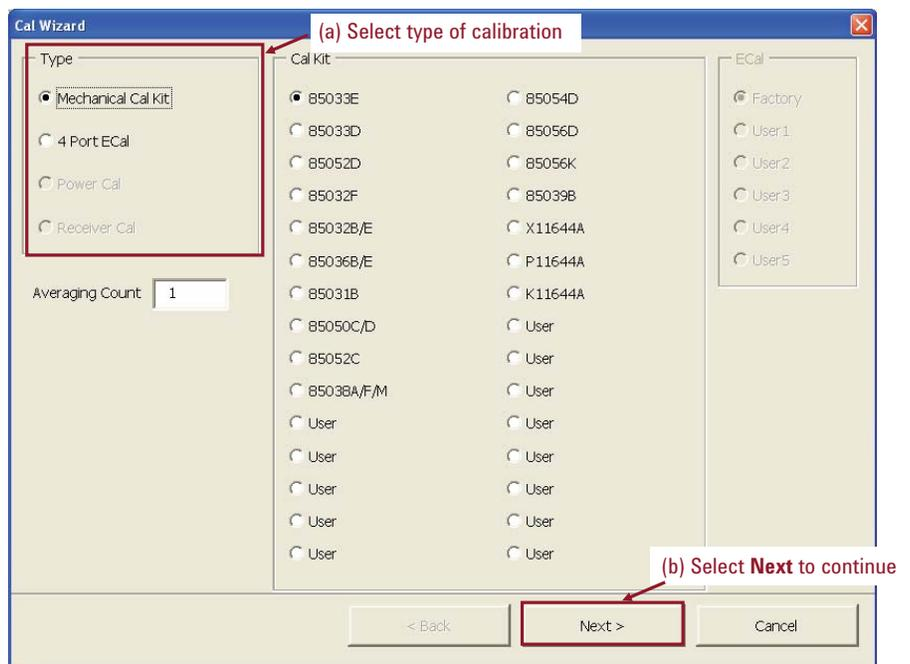

Figure 11. Calibration wizard dialog box (Back-End application)
- 1) Select **Cal Wizard** in the main window (Figure 9b) and the Cal Wizard dialog box is displayed (Figure 11).